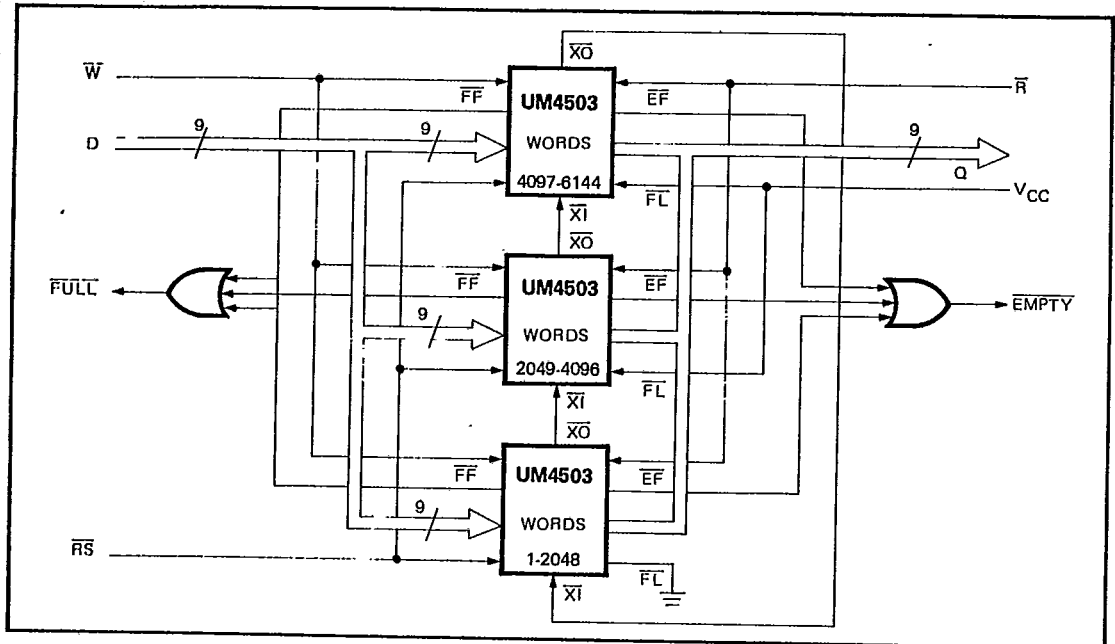

Figure 16. Block Diagram of a 6144 x 9 FIFO Memory (Depth Expansion)
3. The EXPANSION OUT (XO) pin of each device must be connected to the EXPANSION IN (XI) pin of the next device as shown in Figure 16.
Notes: 1. \overline{XI} is connected to \overline{XO} of previous device. See Figure 16.